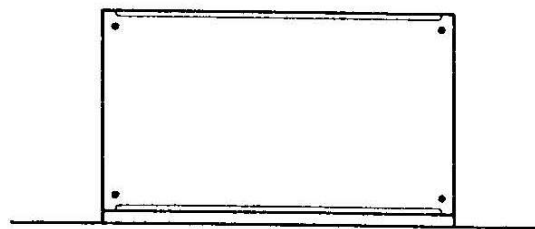

Figure 4
10. Press "Hold" button. Unit will read "-0.0" within five (5) seconds.
**CAUTION: DO NOT MOVE UNTIL LCD READS "-0.0"**. Position unit 1800 on reference surface, display facing away from you. See Figure 4.